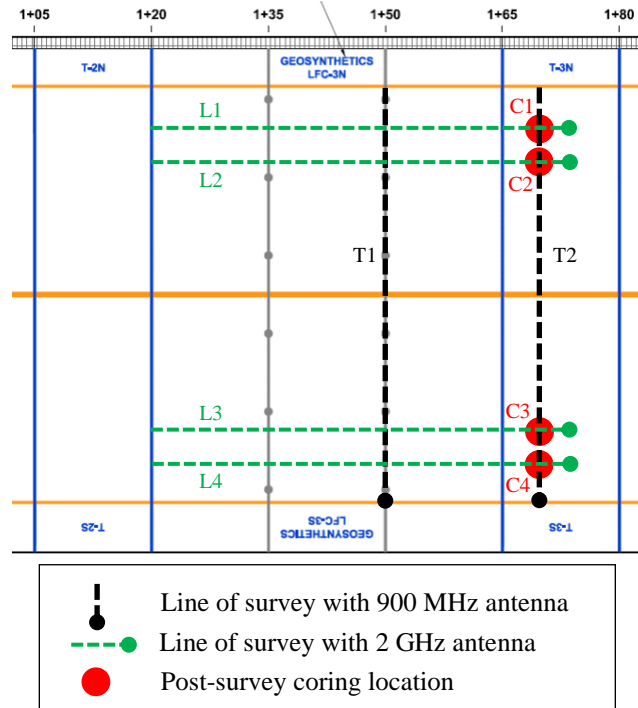

Figure 1. GPR Survey Layout and Coring Locations on LFC-3N and -3S + Transition Area (T-3N and -3S)
- (i) Thick P-401MR: ‘LFC-3N and -3S + Transition Area, T-3N/-3S’ (see Figure 1).
- c) Conduct additional surveys using both antenna in static mode directly at the coring locations under both thick and thin asphalt layers (i.e., red markers as shown in Figure 1 and 2).
- a) Extract 4-inch diameter P-401MR cores from the Transition Area(s) on both North and South sides (i.e., T-3N, T-3S, T-5N, and T-5S), as shown in Figure 1 and 2.